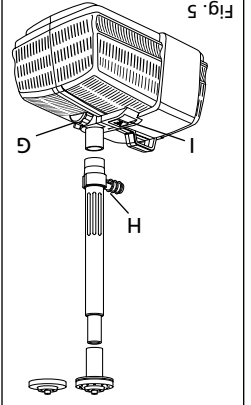

Fig. 5
- Holding the pump in one hand, press the release button (I) on the top of the pump and open Strainer Cage. See Fig 5.